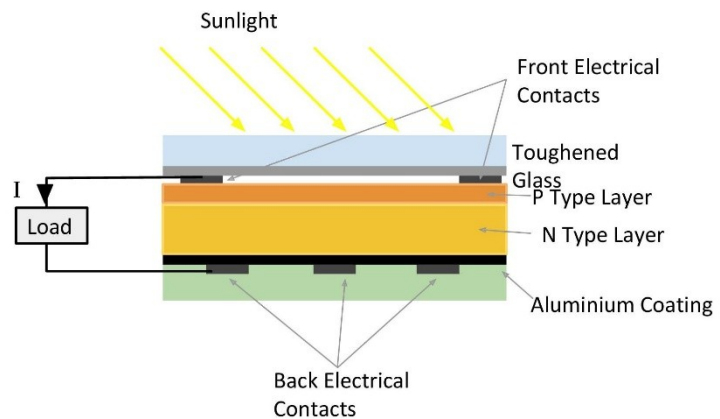

Figure 14c: Construction
1. A solar cell is basically a p-n junction connected to an external circuit as shown in Figure 14c.